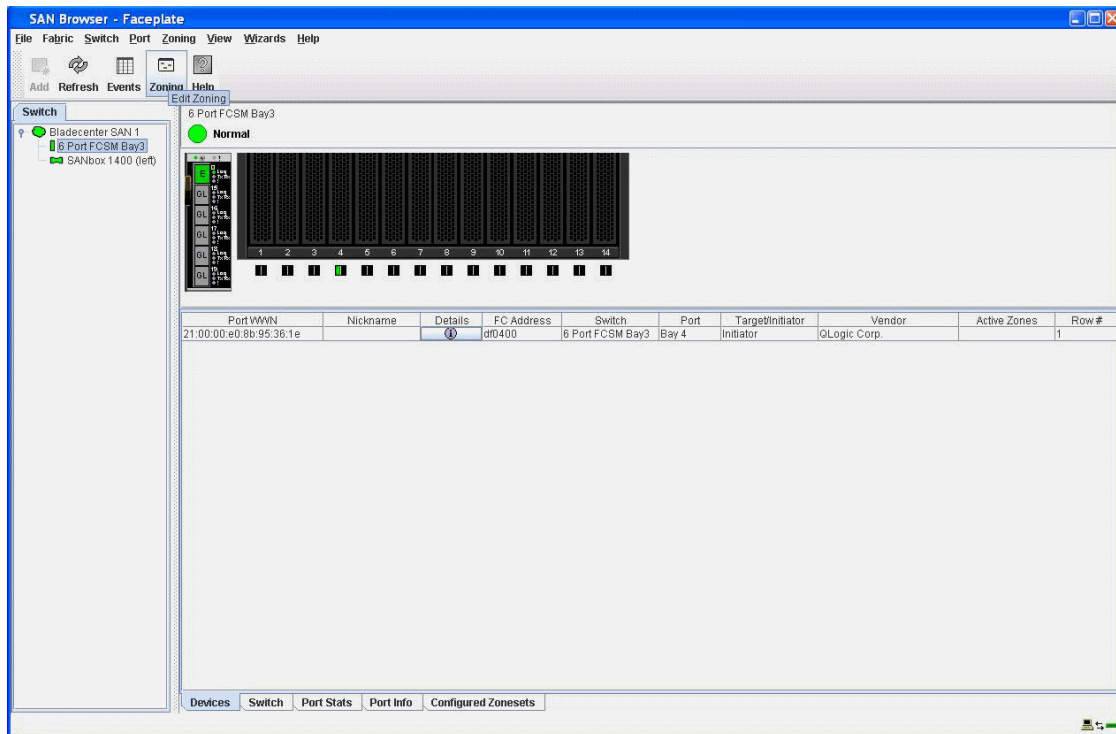

Figure 9-17 Edit zoning window
- This is the topology window that includes the 4Gb QLogic Fibre Channel Switch Module and the QLogic SANBox 1404. Double-click **6 Port FCSM Bay 3** and you will see a window similar to Figure 9-17.